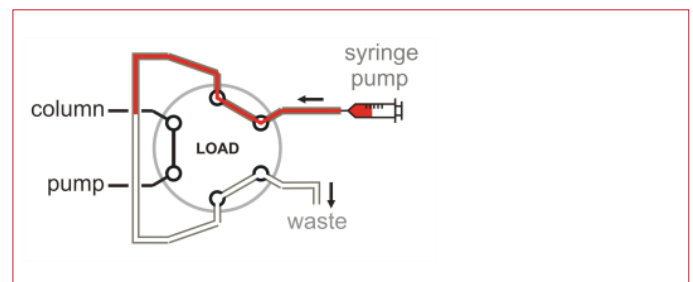

Figure 8: Schematic representation of 'insertion by syringe pump' injection method on a sampling valve
■ **Insertion by syringe pump.** Disconnect the microdialysis probe from the tubing and fill the syringe with the standard solution instead of perfusion fluid (Fig. 8). Set the flow rate at the same value as used for the experiment with probe, and repeat 3 or 4 analyses until signals are reproducible. This way of injecting takes into account the efficiency of the loop filling, but it takes more time compared to the backwards aspiration method as it is also necessary to flush and clean the lines and syringe afterwards to prevent carry-over.